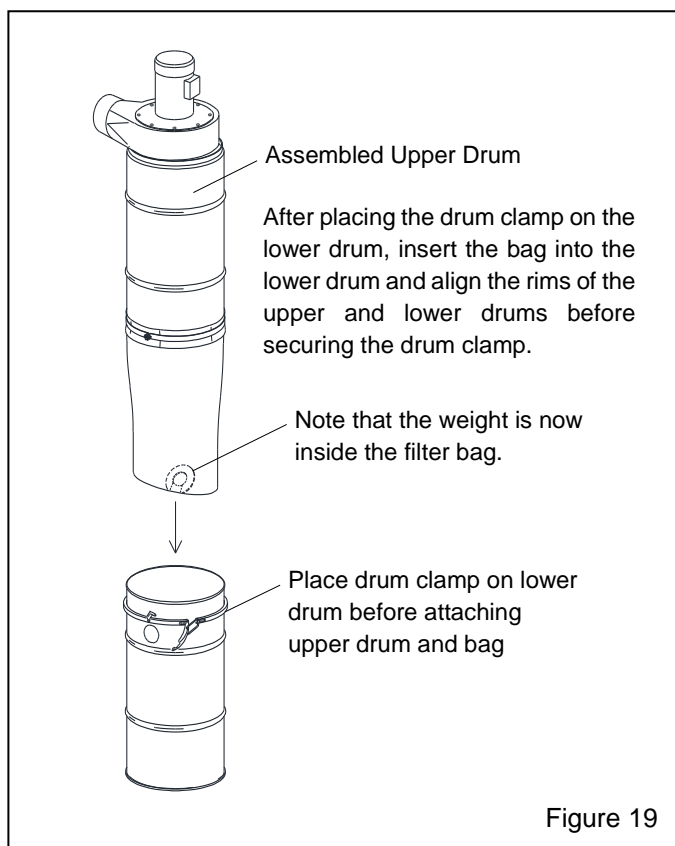

Figure 19
9.8.10 Place the lower drum on the floor and loosely place the drum clamp, as shown in Figure 19.